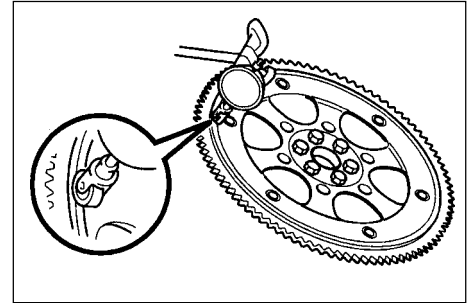

Figure 7-8
- (1) Install a dial test indicator to measure the runout of the drive disc. (See Fig.7-8)
- (2) Check the damage of the gear ring.